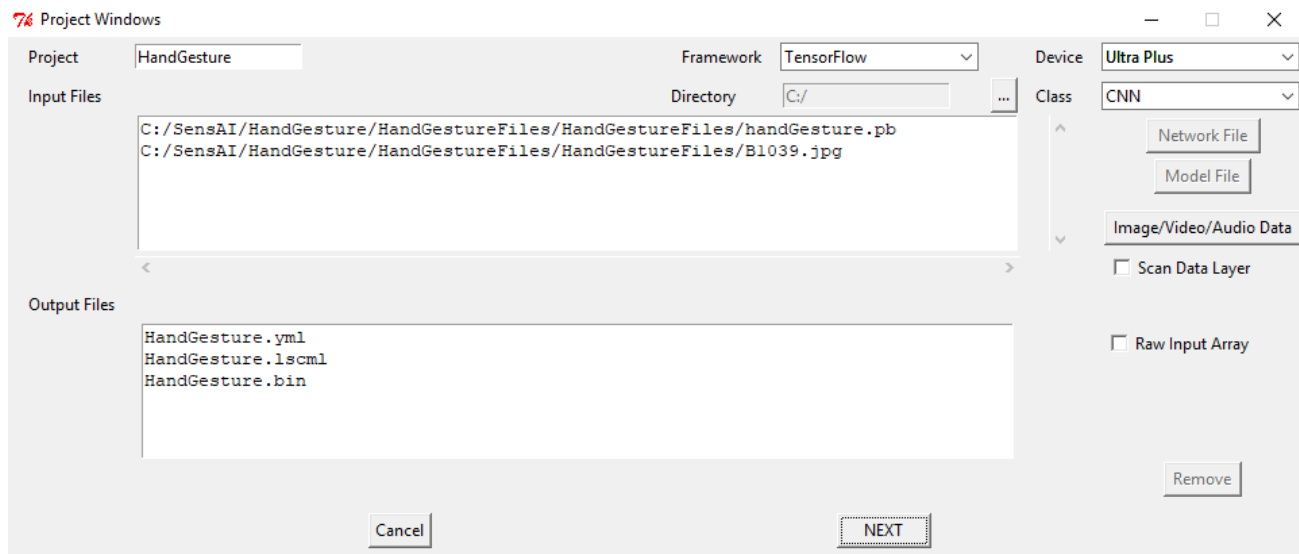

Figure 7.1. SensAI Project Settings Part 1
- Using the files located in the **NN_Compiler_Files** directory, create a new project in SensAI and apply the following settings as shown in Figure 7.1.